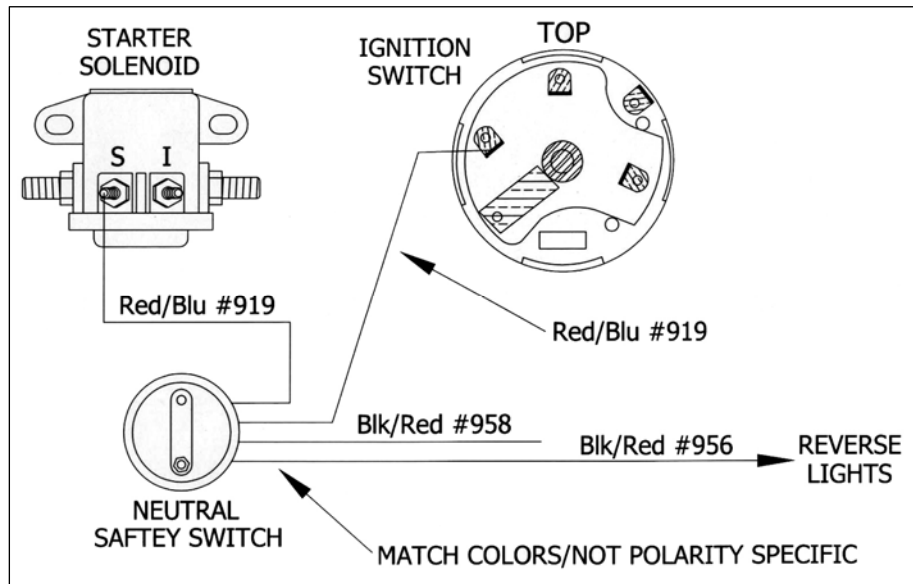

Figure 7-7 NEUTRAL SAFETY SWITCH
- 7.3.6** Neutral Safety/Backup Light Switch wire #'s 958, 956 and #919 (2 wires) all breakout from the firewall in the ENGINE SECTION. #958 (BLK/RED) is the power source to the switch for the backup lights and #956 (BLK/RED) is the wire connected to the actual bulbs. Wire IGNITION SWITCH START #919 (RED/BLU) comes from the start terminal on the Ignition Switch and provides the start signal to the Neutral Safety switch. Wire STARTER SOLENOID #919 (RED/BLU) carries the start signal from the Neutral Safety switch to the Starter Solenoid. **See Figure 7-7.**